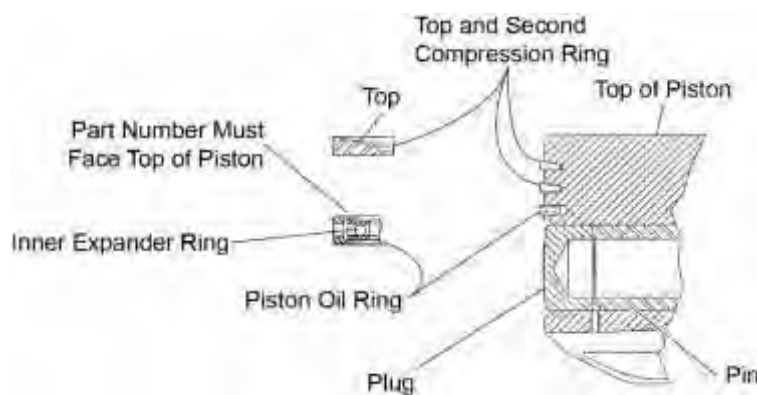

Figure 24
- A. Start from the top down, use the commercially available piston ring expander tool to remove the two top piston compression rings, the piston oil ring, and the inner expander ring (with the piston oil ring) (Figure 24).
- C. With the piston top side up on a workbench, install the inner expander ring with the part number facing toward the top of the piston in the first groove above the piston pin hole (Figure 24).
- | E. Install the two top compression rings (Figure 24) with the word "Top" toward the top of the piston in the remaining top grooves. Orient the gaps in the two compression rings 180° from each other parallel with the piston pin hole.